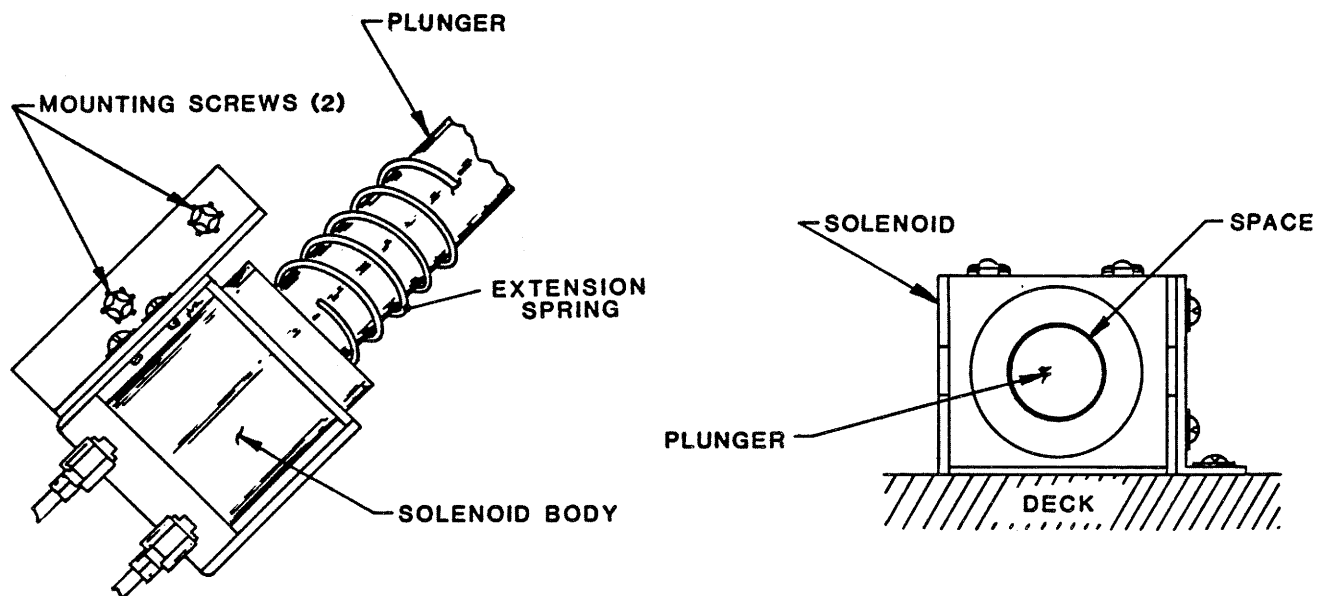

**Figure 4-3 Card Cage**
**4.3.2 PRINTED CIRCUIT BOARD ASSEMBLIES IN CARD CAGE (Fig. 4-3)**